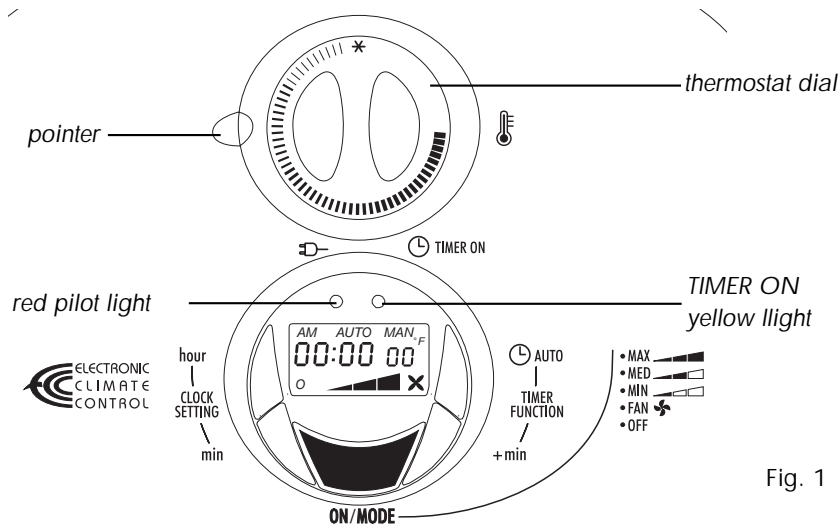

Fig. 1
When you plug in the appliance, the red pilot light will illuminate (Fig. 1).
- Press the button **"hour"** until the display shows the hours for the correct time and AM or PM, then release the button (fig. 1).
- Press the button **"min"** until the display shows the minutes for the correct time, then release the button (fig. 1).
To operate the heater without timer press the **"ON MODE"** button. (Fig. 1). By pressing the **"ON MODE"** button one or more times, the appliance will select the operating heating power, as follows:
If Maximum power has been selected, adjust the thermostat dial (Fig. 1) to the desired comfort temperature, from 42° and 95° F (5°C to 35°C). By turning the thermostat dial the display will show the selected temperature.
Set the thermostat dial to the "★" position (Fig. 1). The display will show 42°F (see figure).